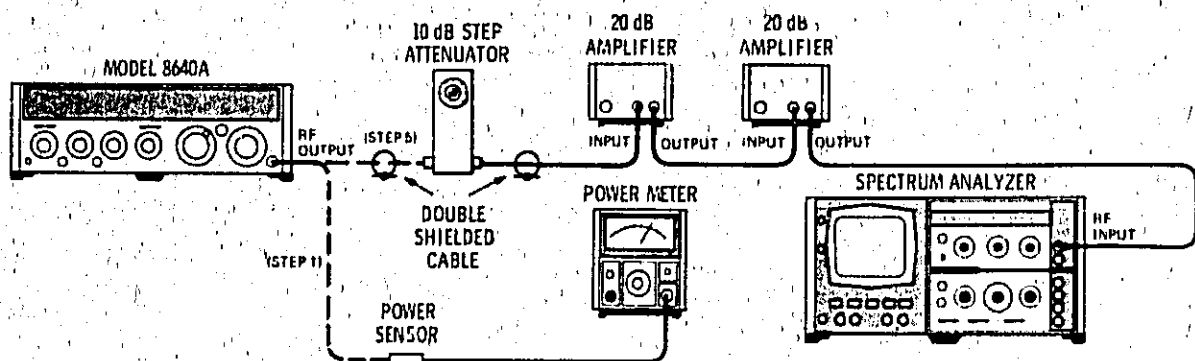

Figure 4-6. Output Level Accuracy Test Setup (Option 002)
1. Connect equipment as shown in Figure 4-6 after setting Signal Generator's controls as follows: